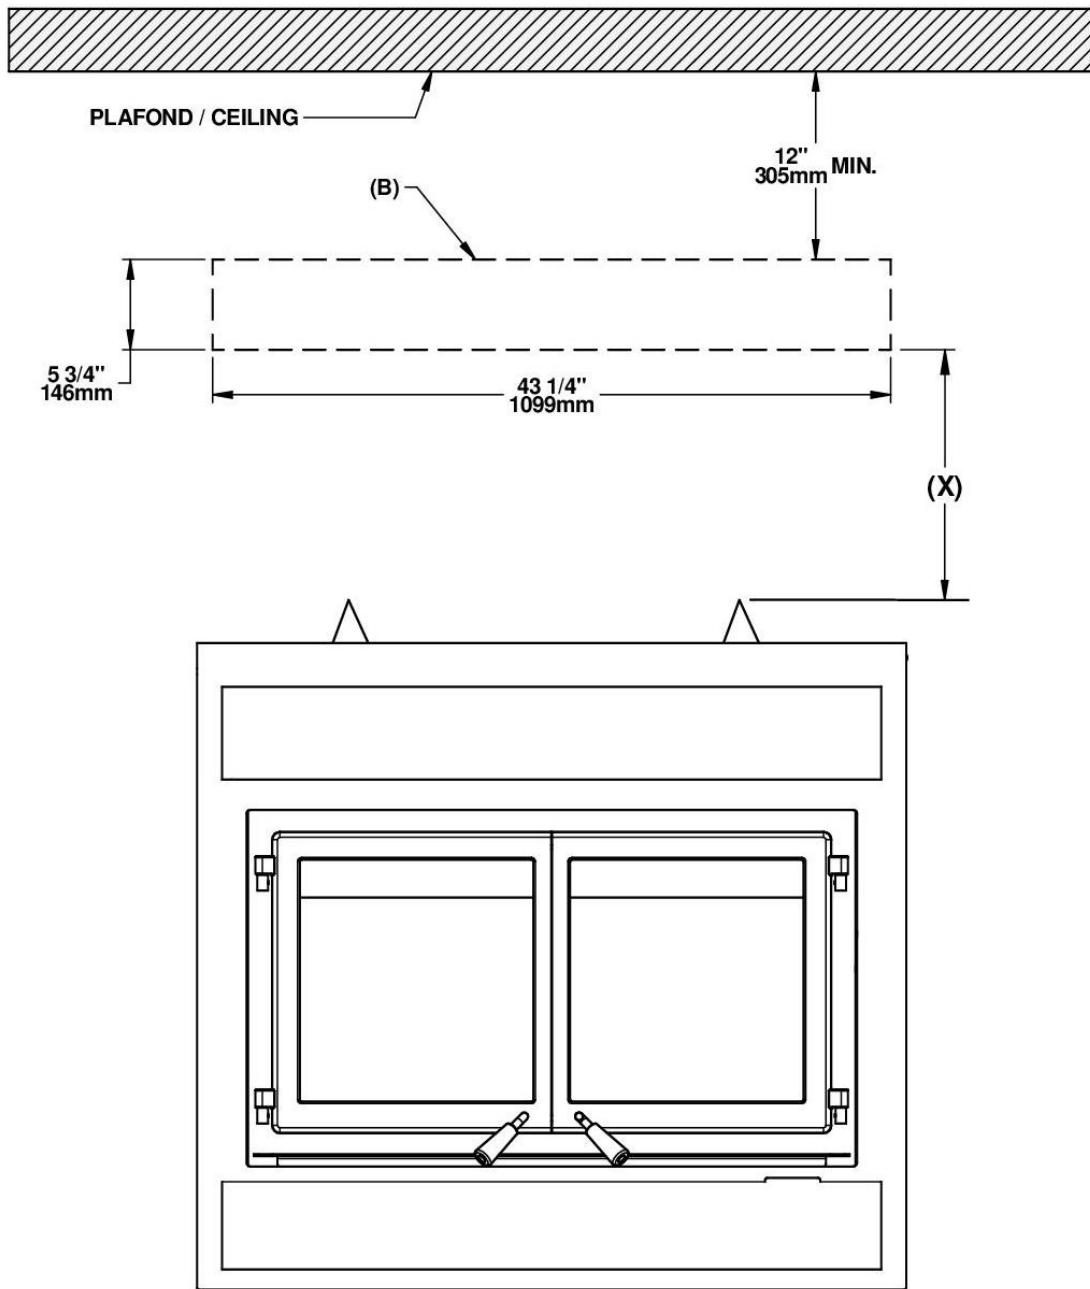

Figure 8 : Grille support location
Position the grille support (**B**) above the fireplace as shown in Figure 8 below.
1. Build a non-combustible frame using the dimensions shown on Figure 8.